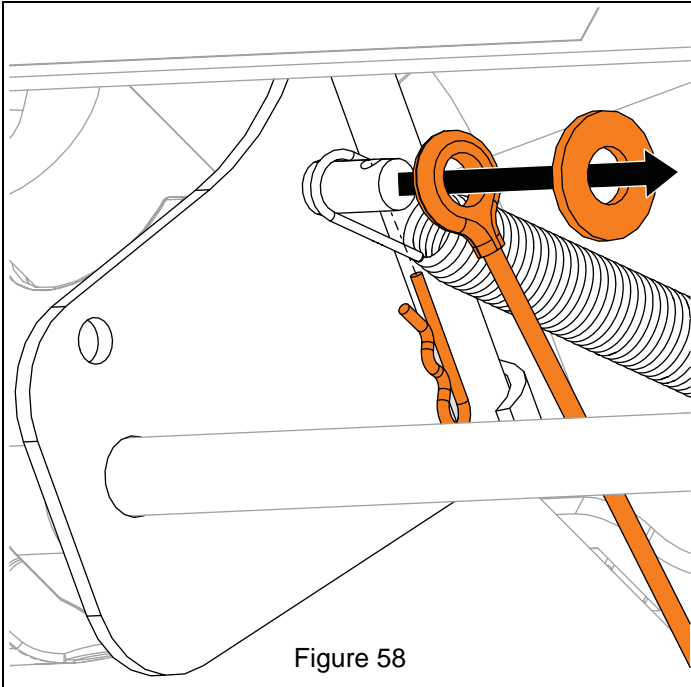

Figure 58
4. Under dash panel, remove hardware retaining upper traction clutch cable to clutch lever and remove cable. See Figure 58.
5. Reinstall upper traction drive clutch cable to traction clutch lever. Secure with one flat steel washer and hairpin. See Figure 58.